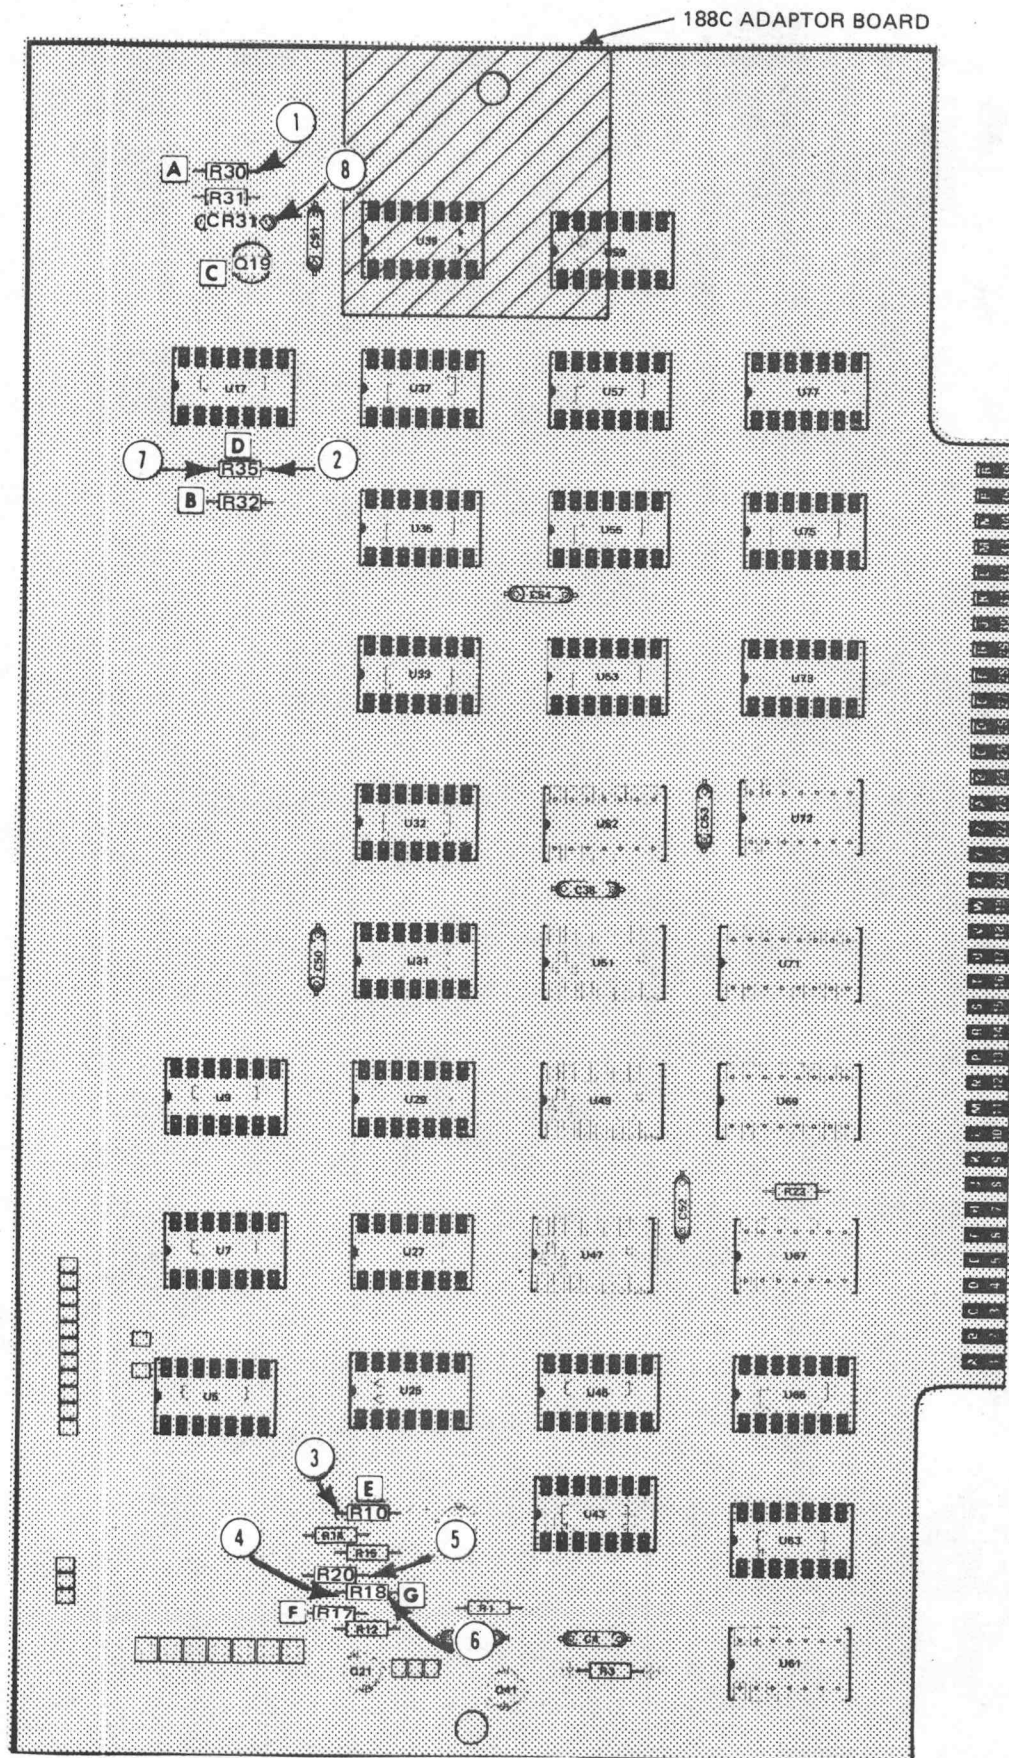

FIGURE 1. MODIFIED COMPONENT LOCATIONS FOR STANDARD DATA COMMUNICATIONS INTERFACE (670-1730-XX).
To install the 188C Adaptor, refer to the following instructions and see Figure 1. (Circled and squared numbers below match the corresponding circled and squared numbers in Figure 1.)
- 1 Solder 9-1 (wht/brn) wire to bottom pad of R30 as shown in Figure 1.
- 2 Solder 9-2 (wht/red) wire to bottom pad of R35 as shown in Figure 1.
- 3 Solder 9-3 (wht/org) wire to top pad of R10 (removed earlier) as shown in Figure 1.
- 4 Solder 9-4 (wht/yel) wire to top pad of R18 (removed earlier) as shown in Figure 1.
- 5 Solder 9-5 (wht/grn) wire to bottom of R20 (+15V) as shown in Fig. 1.
- 6 Solder 9-6 (wht/blu) wire to bottom pad (-15V) of R18 (removed earlier) as shown in Figure 1.
- 7 Solder 9-N (white) wire to top pad of R35 (+5V) as shown in Fig. 1.
- 8 Solder 9-Ø (wht/blk) wire to anode end (GND) of CR31 as shown in Figure 1.
U2A is a 188C Line Receiver that converts the ± 6 volt levels to TTL levels. CR2 provides a clamp so that U2 output will not go above 5.3 volts. The RDATA strapping on U2A input provides for accepting either inverted (I) or non-inverted (N) data from the transmitting source. For non-inverted RDATA, both jumpers must be at the "N" position, and for inverted RDATA, both jumpers must be at the "I" position (See Figure 1).
U1A provides a TTL to Line Driver function with VR2 and VR3 providing a clamp to the 188C ± 6 volt levels. Strapping at U2A, pin 2 input provides for either inverted (I) or non-inverted (N) TDATA out. For non-inverted data out, TDATA jumper should be at "N" position and for inverted TDATA, the jumper should be at the "I" position (See Figure 1).